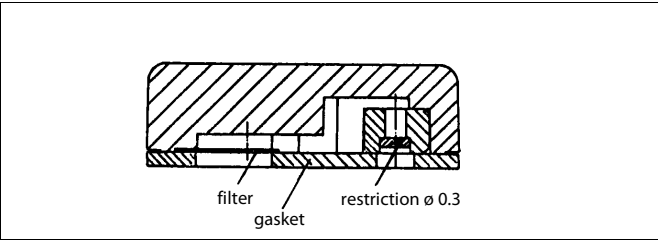

Fig. 16 Restriction assembly (24)
Remove the spring (40) and loosen the screws (23). Remove the zero adjustment wheel, the screw (15) and the nut (16). Replace the diaphragms (13, 14). See Fig. 16. Note the installation position of the diaphragms convolution.